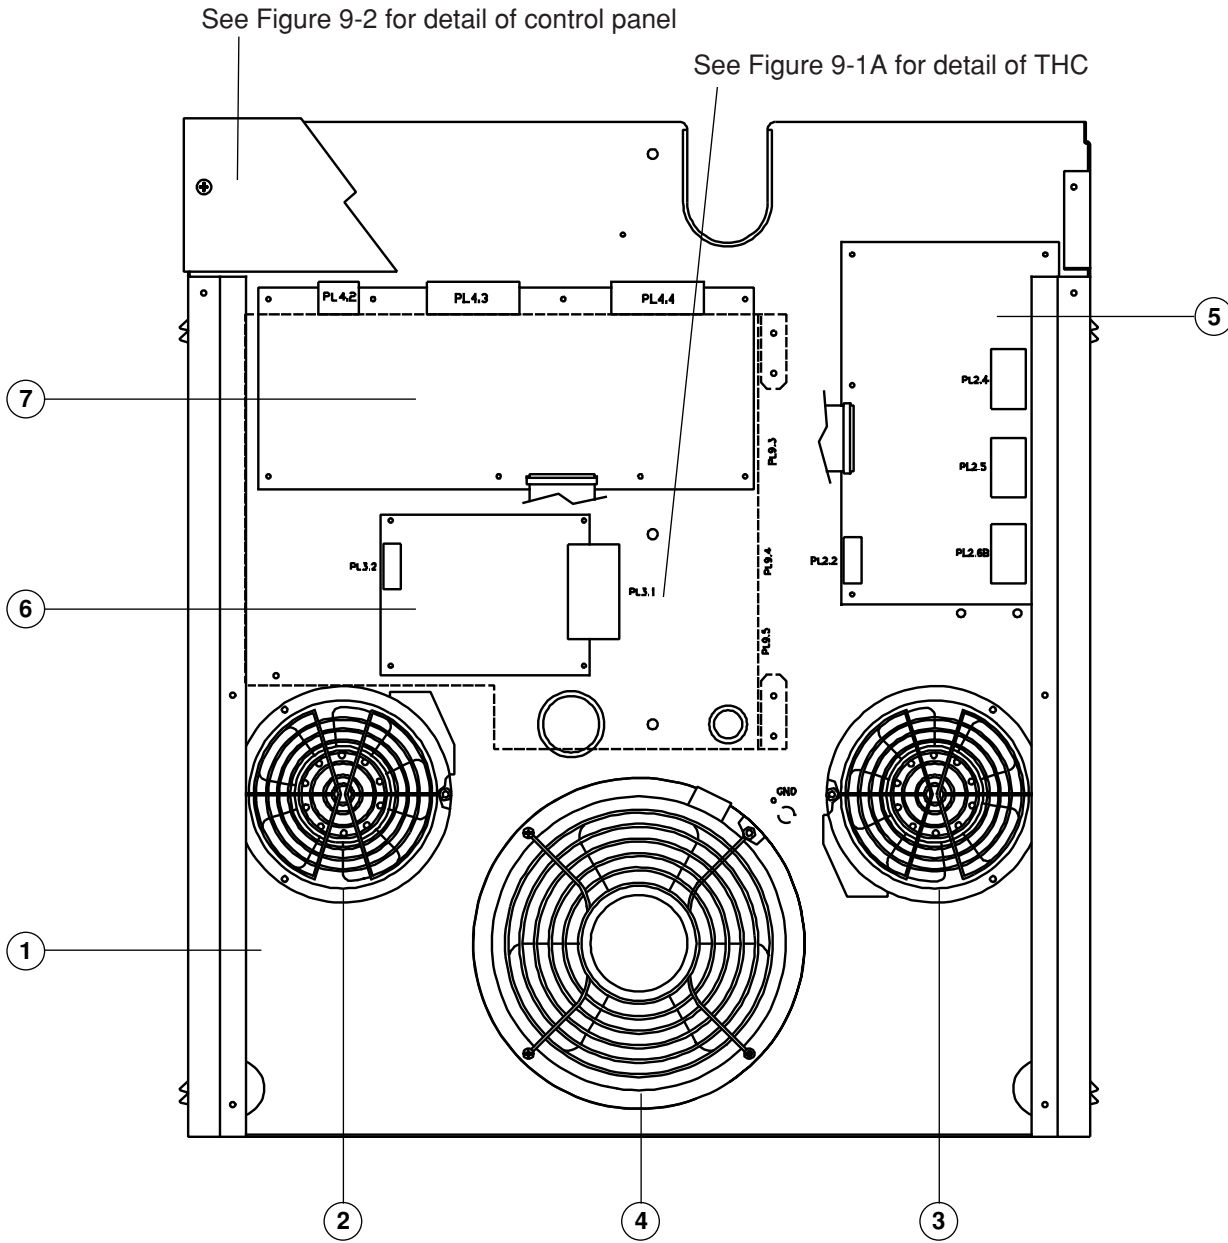

Figure 9-1 HT2000 Power Supply – Front Panel
* Items not shown in Figure 9-1